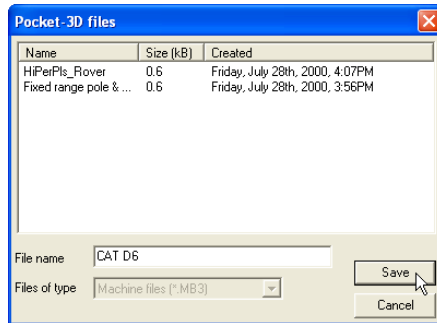

Figure 2-26. Save File to Pocket-3D Controller
4. On the *Pocket-3D files* dialog box, enter a new file name or keep the default file name (Figure 2-26). The file type is automatically selected.
5. Click **Save** to export the selected equipment file to the Pocket-3D controller's memory (Figure 2-26).